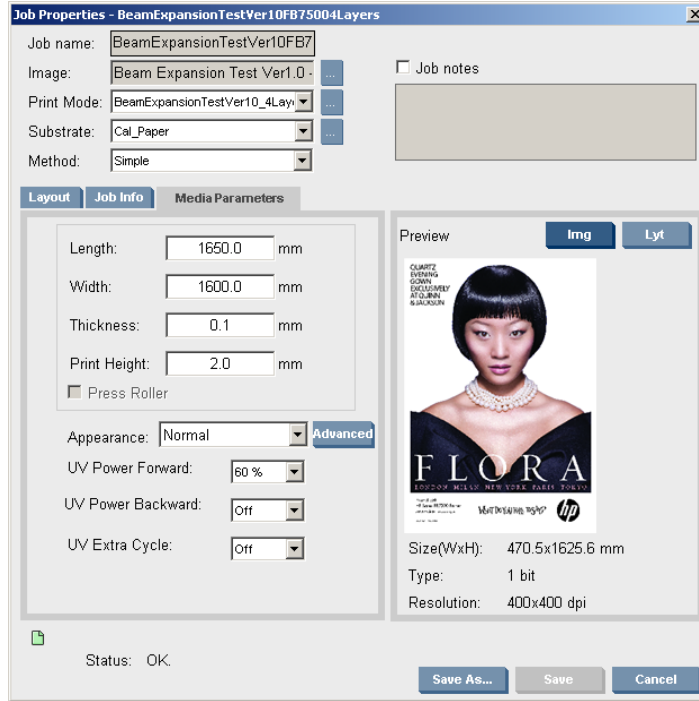

Figure 3-7 Job Properties - Media Parameters Tab (Normal)
- 12 Click the **Media Parameters** tab (see Figure 3-7); the parameters of the selected substrate are displayed.
- 14 In the **Appearance** box, select the desired printed image appearance: **Normal** (see Figure 3-7), **Semi Gloss**, or **Gloss** (see Figure 3-8 on page 57).
You can access the Appearance Editor from the Job Properties window (see Figure 3-7 on page 56) by clicking the **Advanced** button.